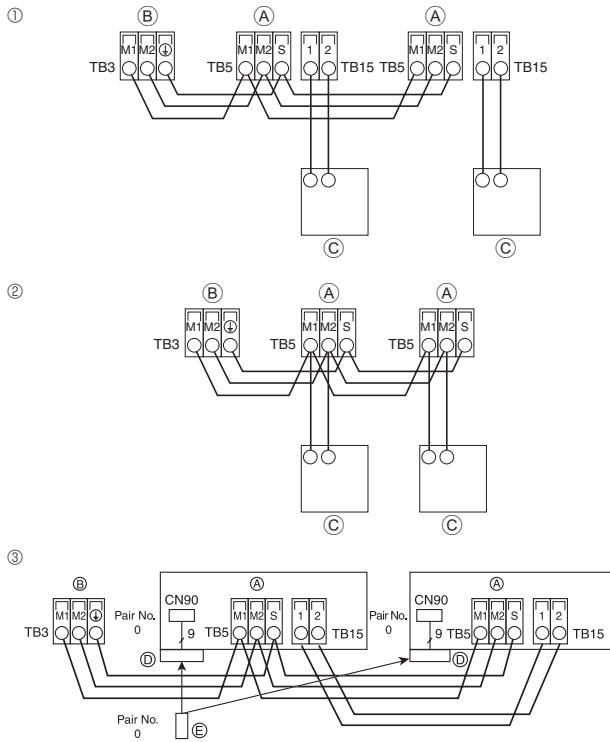

Fig. 5-3
5.3. Connecting remote controller, indoor and outdoor transmission cables (Fig. 5-3)
① MA Remote controller
② M-NET Remote controller
③ Wireless remote controller(When installing wireless signal receiver)